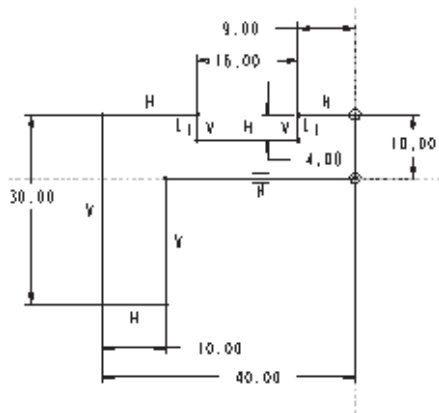

Figure 4-81 Sketch with dimensions and constraints for the base feature
From the model, the section to be extruded for the base feature is evident. The section sketch is shown in Figure 4-81. When this sketch is extruded, it will create the base feature.
1. Draw the section sketch using various sketcher tools as shown in Figure 4-81.
2. The sketch is dimensioned automatically and some weak dimensions are assigned to it. Add the required constraints and modify the weak dimensions as shown in Figure 4-81.